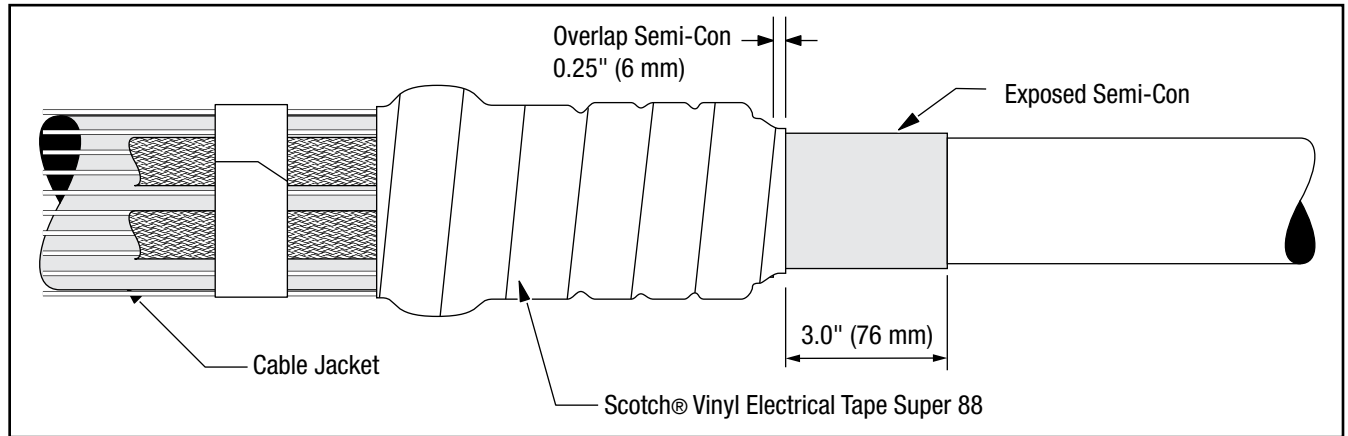

Figure 19
- 4.8 Wrap two half-lapped layers of highly-tensioned Scotch® Vinyl Electrical Tape Super 88 over the mastic seal and constant force springs. Cover all exposed mastic, constant force springs and tape shield, overlapping 0.25" (6 mm) onto the exposed cable semi-con. (Figure 19)